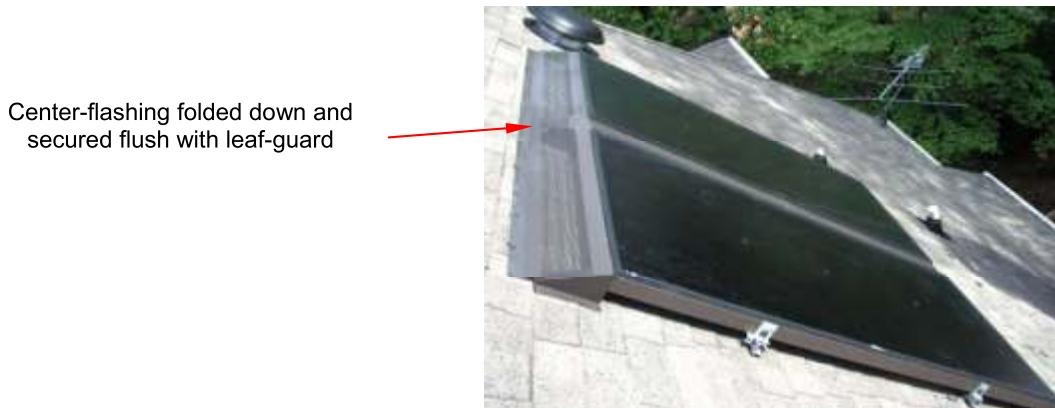

Fig. 7.3.1 – Two collectors with center-flashing and leaf-guard.
3. Insert triangular caps into left and right leaf-guard ends. Secure end caps to roof with included roofing screws (Fig. 7.3.1).
5. Bend center-flashing down to leaf-guard and secure with self-drilling screws if applicable (Fig. 7.3.1).